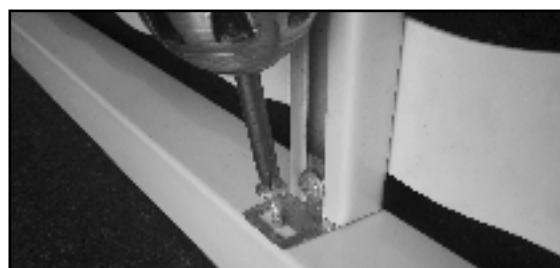

Fig. 3
4. Ensure that the support rails are vertical and the gap at both ends of the slats is the same, then install the slat screen using screws up to 5mm thick (not supplied) through the slot in each angle bracket as shown in Fig. 3. If the slats buckle in hot weather, loosen the screws in the slots of the angle brackets or remove some other obstruction which is preventing the slats from expanding.